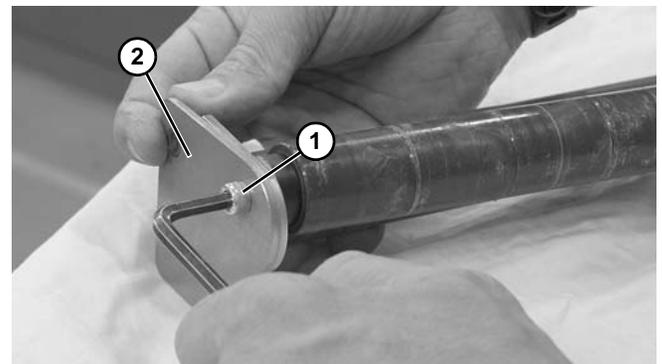

Figure 80
- Remove screw (Figure 80, item 1) and head plate (Figure 80, item 2).